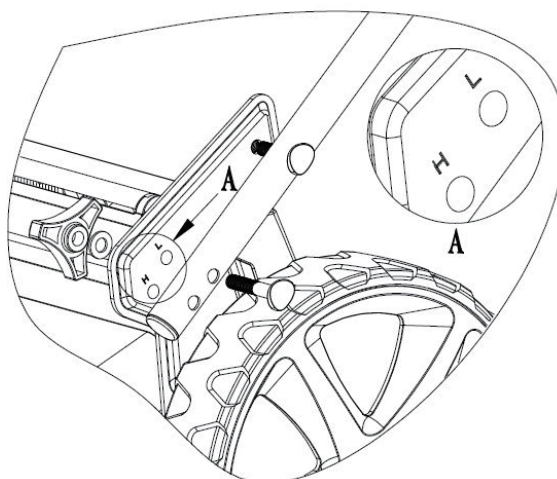

Fig. 2
2. The "H" hole is high position of the handle bar, and the "L" hole is low position of the handle bar. (See Fig. 2)